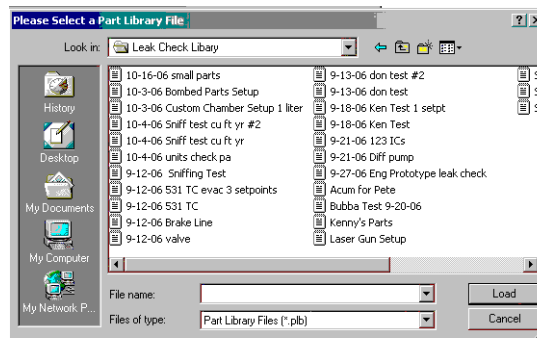

Figure 2-15 Save Dialog Box
14. Click **Save** and Figure 2-15 appears.